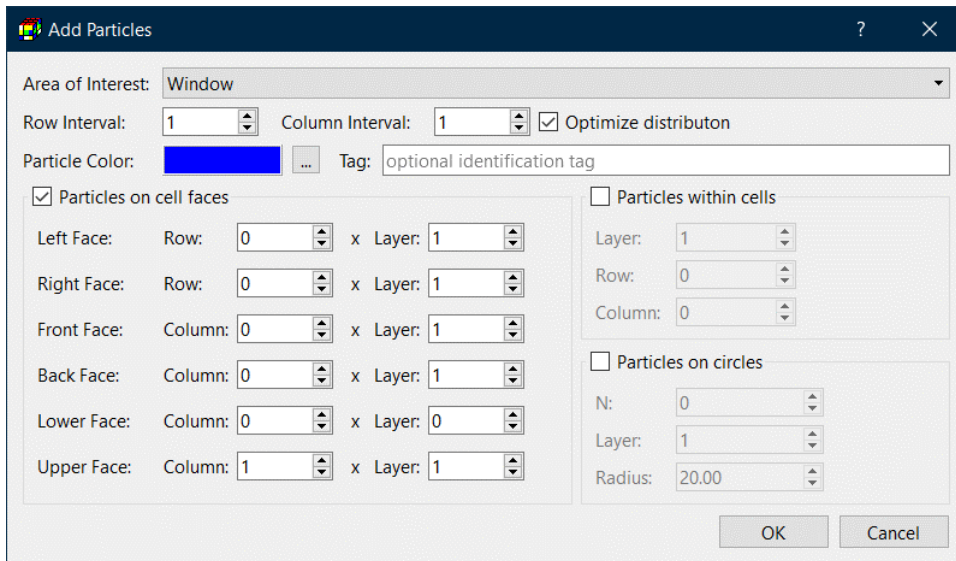

Figure 19. Adding particles on cell faces with the Add Particles dialog box
- Release the left mouse button. The Add Particles dialog box appears. Assign the settings and numbers of particles to the dialog box as shown in Figure 19.